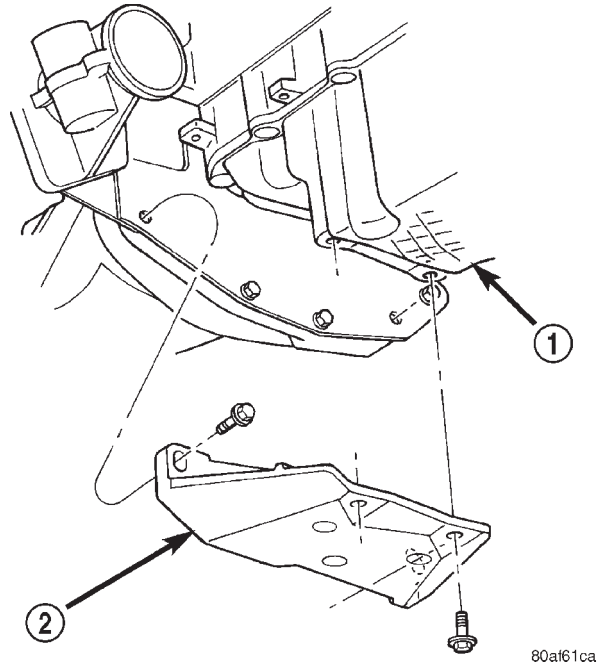

Fig. 23 Structural Collar—Removal and Installation
(2) Remove structural collar from oil pan to transaxle (Fig. 23).
(1) Install the structural collar (Fig. 23) using the following 3 step torque sequence:
(2) Lower vehicle.